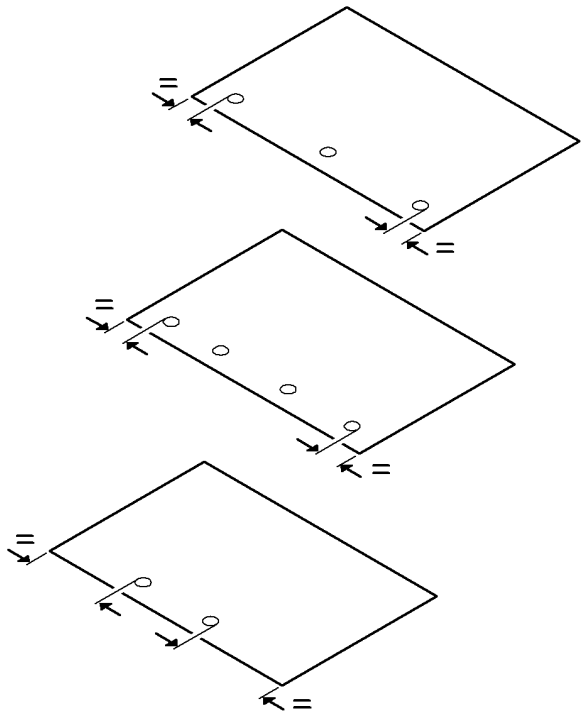

Figure 1 Hole positions
4. Evaluate the average hole positions in each set, referring to Figure 1. The distances shown should be equal at the top and bottom of the sheet. If the distances are different by more than 1mm (0.040 inches), perform the adjustment.